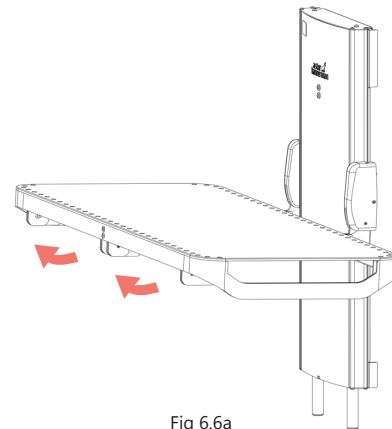

Fig 6.6a
- Reach underneath the stretcher and take hold of the guard. Each guard is retained using magnets. (Fig 6.6a)